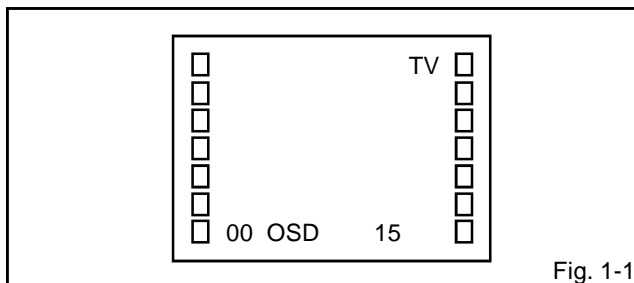

Fig. 1-1
Press the VOL. DOWN button on the set and the Channel button (**9**) on the remote control for more than 1 second to appear the adjustment mode on the screen as shown in **Fig. 1-1**.
4. Activate the adjustment mode display of **Fig. 1-1** and press the channel button (**02**) on the remote control to select "RF.AGC".
3. Activate the adjustment mode display of **Fig. 1-1** and press the channel button (**01**) on the remote control to select "CUT OFF".
4. Activate the adjustment mode display of **Fig. 1-1** and press the channel button (**10**) on the remote control to select "R.BIAS".